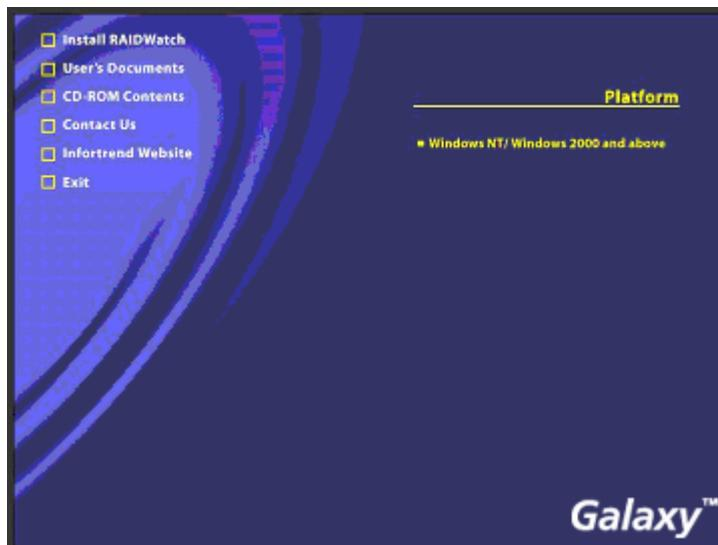

Figure 3-2: The Platform Window
Step 4. Click the supported platform on the right-hand side to start the installation process. The current availability is “*Windows 2000 and above*.” (See *Figure 3-2*)